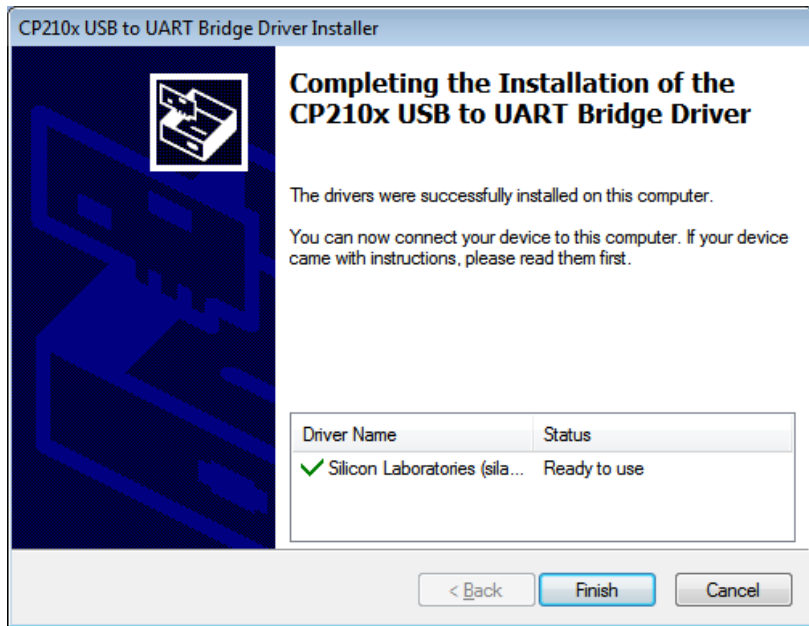

Figure 4-9 Pop-up window for USB installation complete
8. During installation, the installation progress interface will appear, please wait for the installation to complete, as shown in Fig. 4-9.
9. Upon USB driver installation, an installation complete window as shown in Figure 4-9 will pop up.